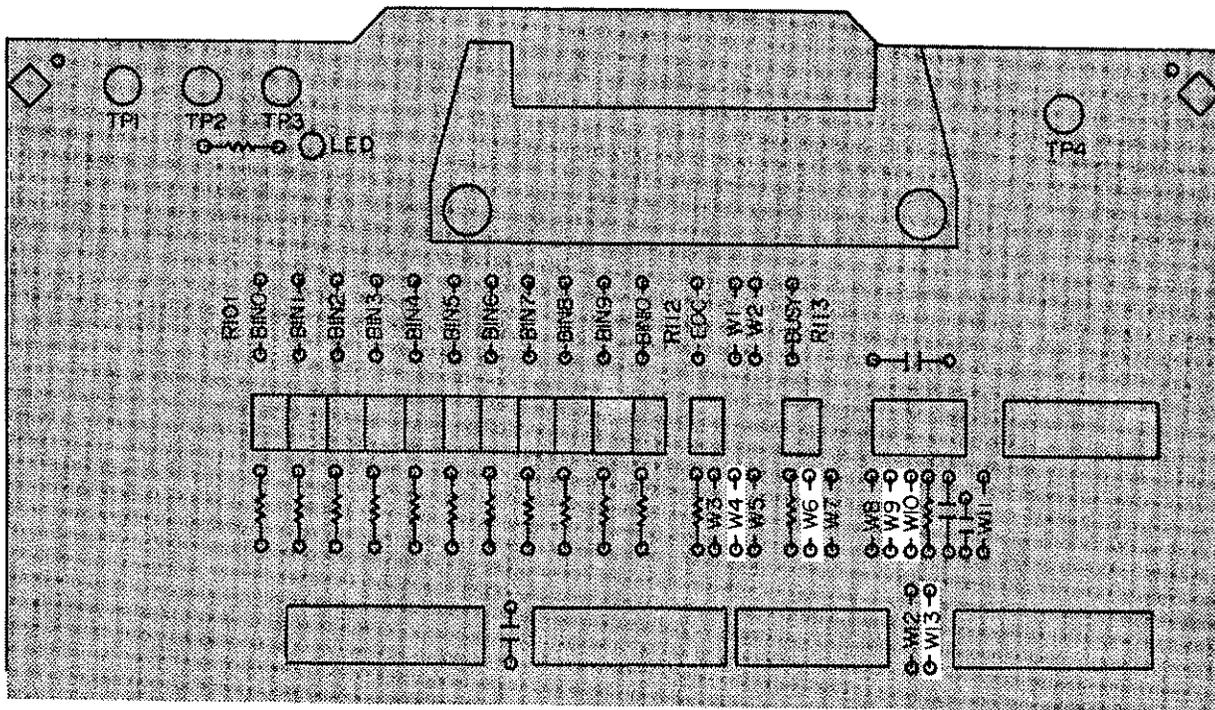

Figure 4-24. Default Jumper and Pull-Up Resistor Locations
1. Configure the following interface signals by installing the jumpers as shown in Figure 4-24.